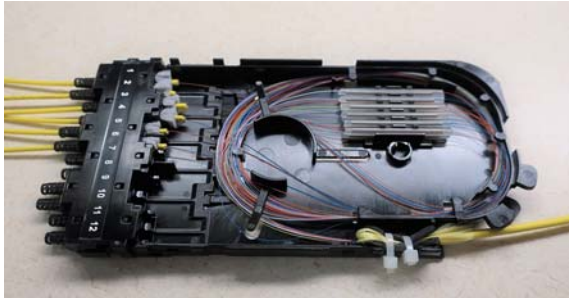

Figure 20. Splices in Cassette
- Place splices in splice holder. Take care to ensure fibers are wound neatly within the cassette with none protruding from side. Splices may be double-stacked within the splice chip (Figure 20).